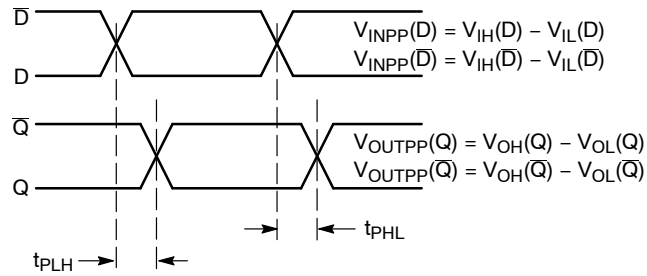

Figure 12. AC Reference Measurement
26. $t_{\text{SKEW}} = |t_{\text{PLH}} - t_{\text{PHL}}|$ for a nominal 50% differential clock input waveform. See Figure 12.
29. $t_{\text{SKEW}} = |t_{\text{PLH}} - t_{\text{PHL}}|$ for a nominal 50% differential clock input waveform. See Figure 12.